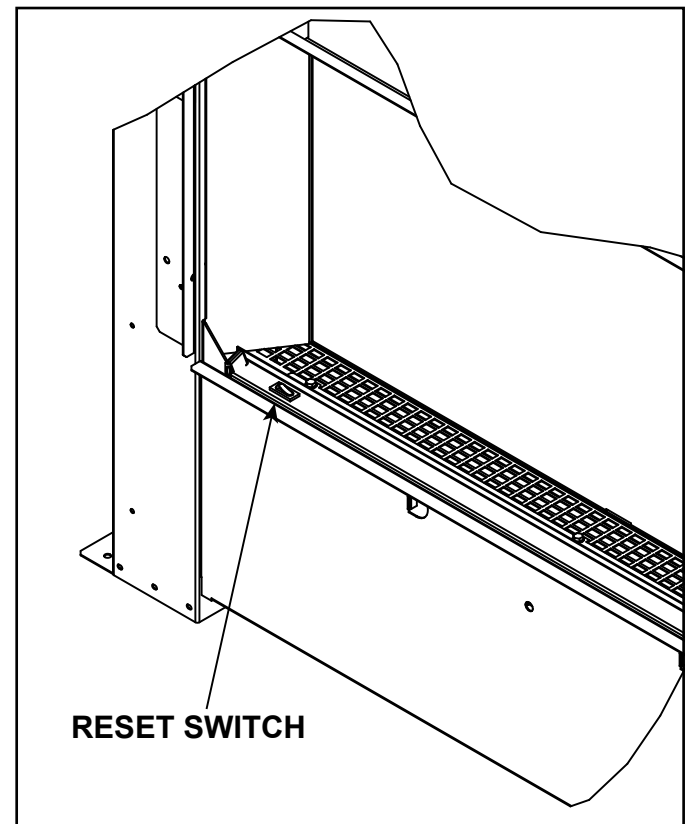

Figure 8.2 Reset Switch Location - Bottom Left
- Press the RESET switch located on the left side of the transition media tray. Use a small, flat object to access the switch. Once the reset switch has been pressed, move the reset switch back to its original position and attempt to start the appliance. See Figure 8.2.